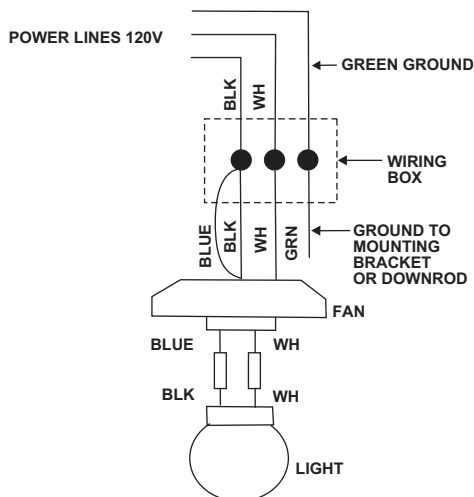

Figure 8
Step 1 Connect the fan supply (black) wire and light supply (blue) wire to the black household supply wire as shown in Figure 8.